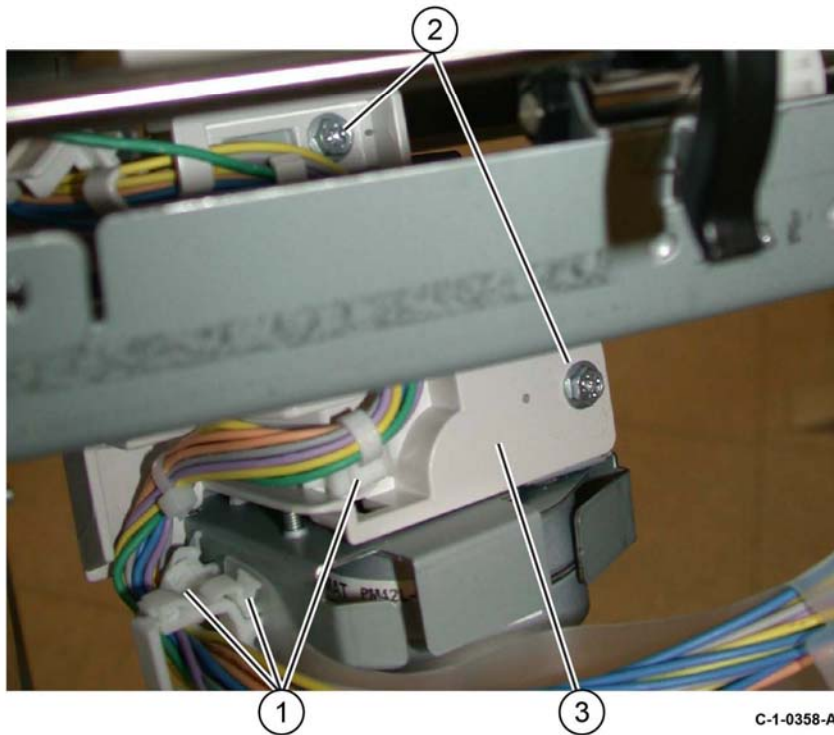

Figure 2 Wire guide removal
3. Remove the wire guide, Figure 2:
- a. Pull out the cable clamps (1), then remove the wires from the wire guide.
- b. Remove two screws (2).
- c. Remove the wire guide (3).